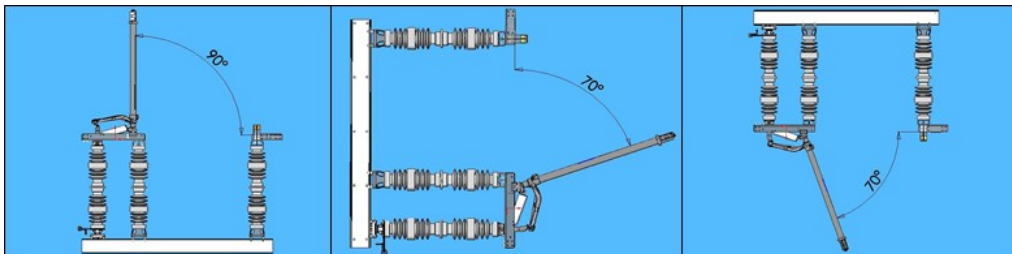
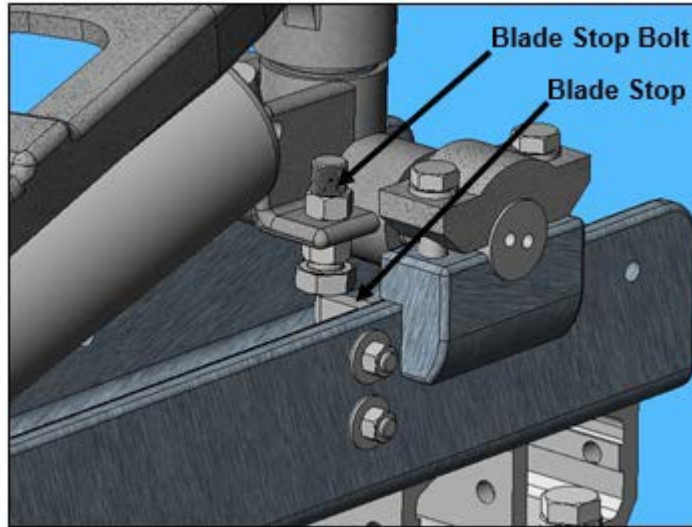

Figure 10: Proper Mounting Positions
Figure 11: Blade Stop (Open Position)
- 4.6. The Mounting Positions and Proper Blade Openings are shown in **Figure 10**.
- 4.6.1. Conventional blade open positions are shown in **Figure 10**. The EV-2 switch will be shipped with one of these blade open angles unless another angle is specified. Slight changes to the blade fully open angles are easily made in the field. Simply adjust the open position stop bolt on the blade carrier assembly shown in **Figure 11**, and then readjust the stop located at the bottom of the rotating insulator to match the blade angle.